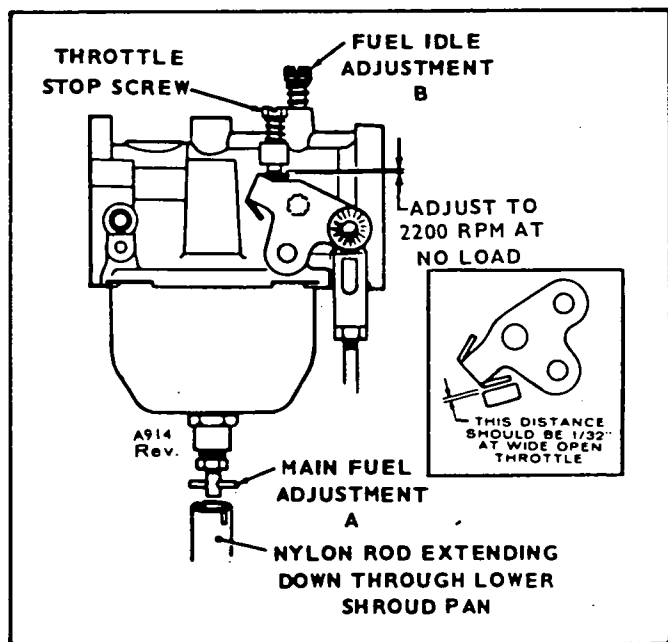

FIGURE 10. CARBURETOR
**Gasoline:** Adjusting the carburetor means obtaining the correct fuel-to-air mixture for smooth, efficient operation. The carburetor should be adjusted in two steps – first the idle adjustment and then the load adjustment (Figure 10).
With the carburetor and governor adjusted, set the throttle stop screw, Figure 10, to allow 2200rpm with the engine operating at no load. This prevents excessive hunting when a large load is suddenly removed.